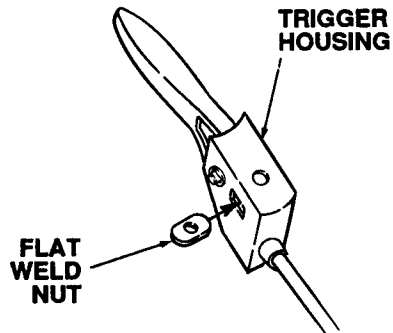

Figure 7-31. Inserting Flat Weld Nut.
10. Slide the flat weld nut (21, Fig. 7-24) into the trigger housing. See Figure 7-31.